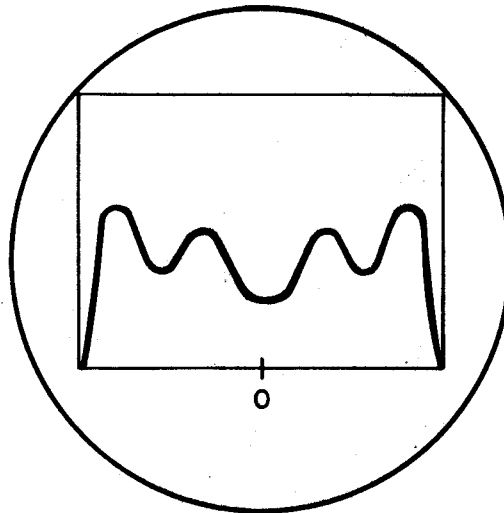

Figure 2-1. - Navy Model RDP, Bandpass Characteristics of the R.F. Section.
(7) R.F. BANDPASS CHARACTERISTICS. - For this test use the same setup as that for the SWEEP test. As you vary the frequency of the signal generator from approximately 25mc. to 35mc., you will notice that the height of the moving peak will vary. The wavy line in Fig. 2-1 indicates this variation in height as the peak moves across the screen. Figure 2-1 represents the idealized bandpass characteristics of the R.F. section of the adaptor.